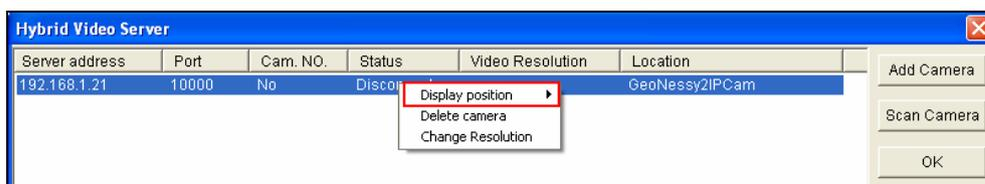

Figure 1-120
- **Preview dual stream record channel:** The option is only available when the dual stream is set, i.e. the cameras for live view and recording are configured differently (see Figure 1-120). Check this option for recording preview.